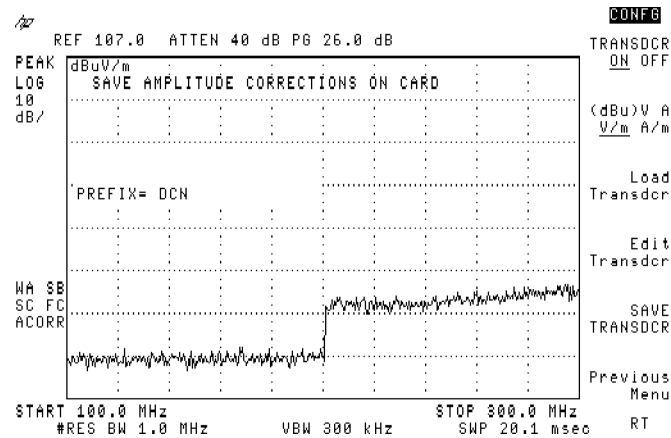

Figure 3-97. The **Transdcr Factor Softkey Menu**
12. Press **MODE**, **MODE**, which returns you to the EMC analyzer. See Figure 3-97.